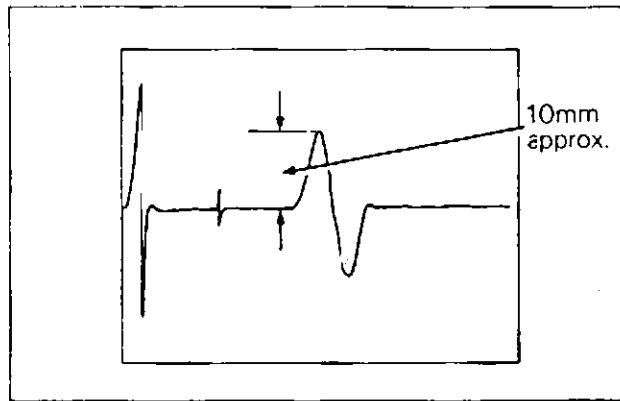

Fig. 6
- 4.5** Turn 'Fine Gain' control fully clockwise, then using the 'Coarse Gain' control adjust the height of the fault pulse to approximately 10mm. (see Fig 6).